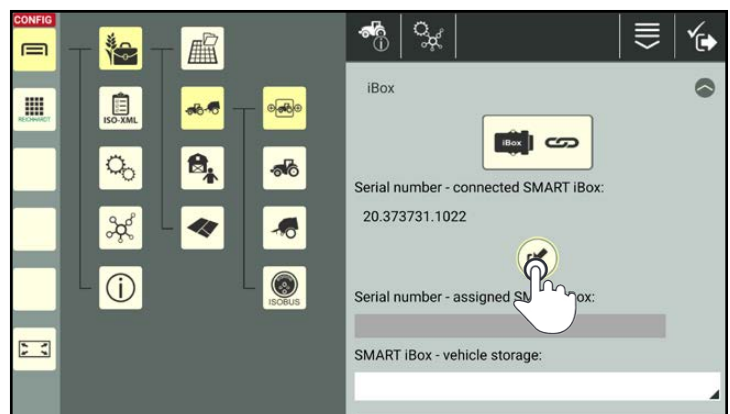

Fig. 16: Transferring the serial number
- Transfer the serial number of the connected SMART iBox by tapping the arrow symbol (see Fig. 16).